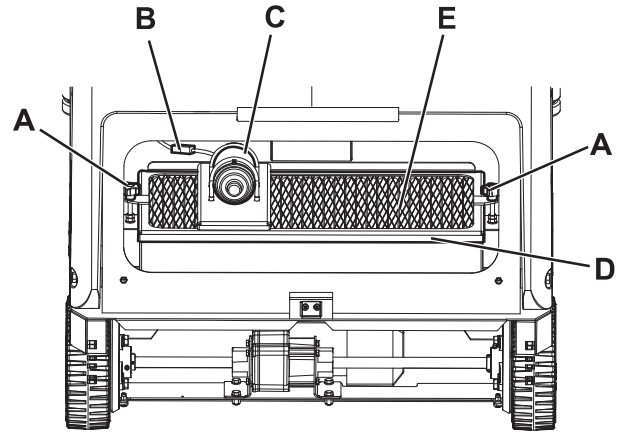
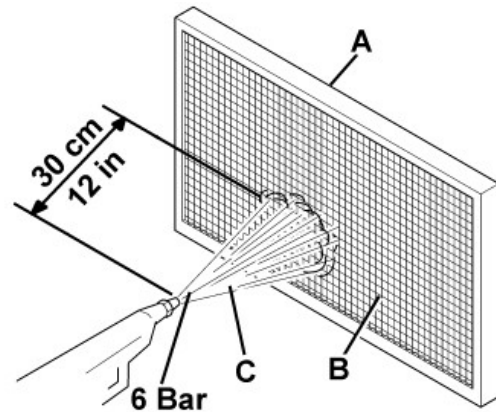

Figure 10
Figure 11
2. Turn the ignition key (72) to "0".
3. Disengage the hook (18) by pulling its lower end.
4. Remove the hopper (17) by using the handle (19) and by disengaging it from the inner guides.
5. Unscrew the knobs (33) and remove the filter compartment cover (32).
6. Loosen the knobs (A, Fig. 10).
7. Disconnect the filter shaker motor (C) electrical connector (B).
8. Remove the dust filter fastening frame (D).
9. Remove the dust filter (E).
10. In an outdoor area, clean the filter by shaking it on a level and clean surface, tapping the side (A, Fig. 11) opposite to the wire gauze (B).
- Install the filter (E, Fig. 10) with the wire gauze (B, Fig. 11) facing upwards.